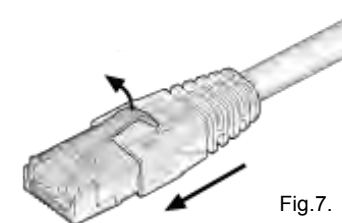

Fig.7.
- ❑ After the plug is ejected from tool, (Fig.7.) lift up the clip and slide the boot over the plug.